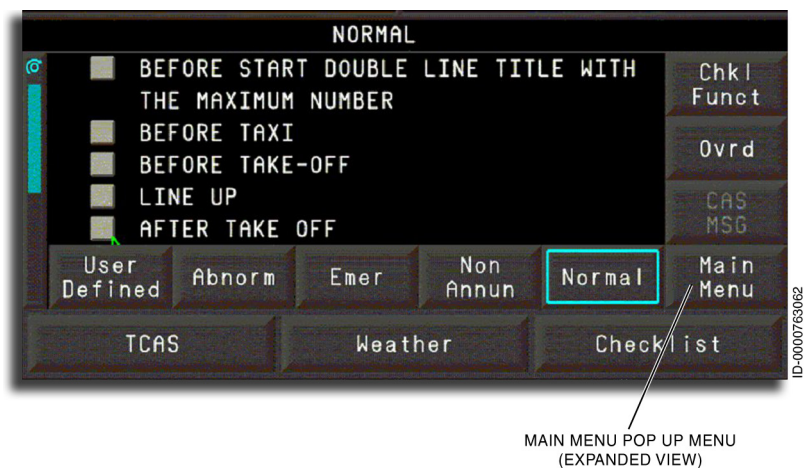

Figure 6-64
- **Main Menu** – This button opens a pop-up menu, shown in Figure 6-64, that includes the function buttons giving access to these checklists: **User Defined**, **Abnorm** (abnormal), **Emer** (emergency), **Non Annum** (non-annunciated), and **Normal**. These keys are described in the following paragraphs.